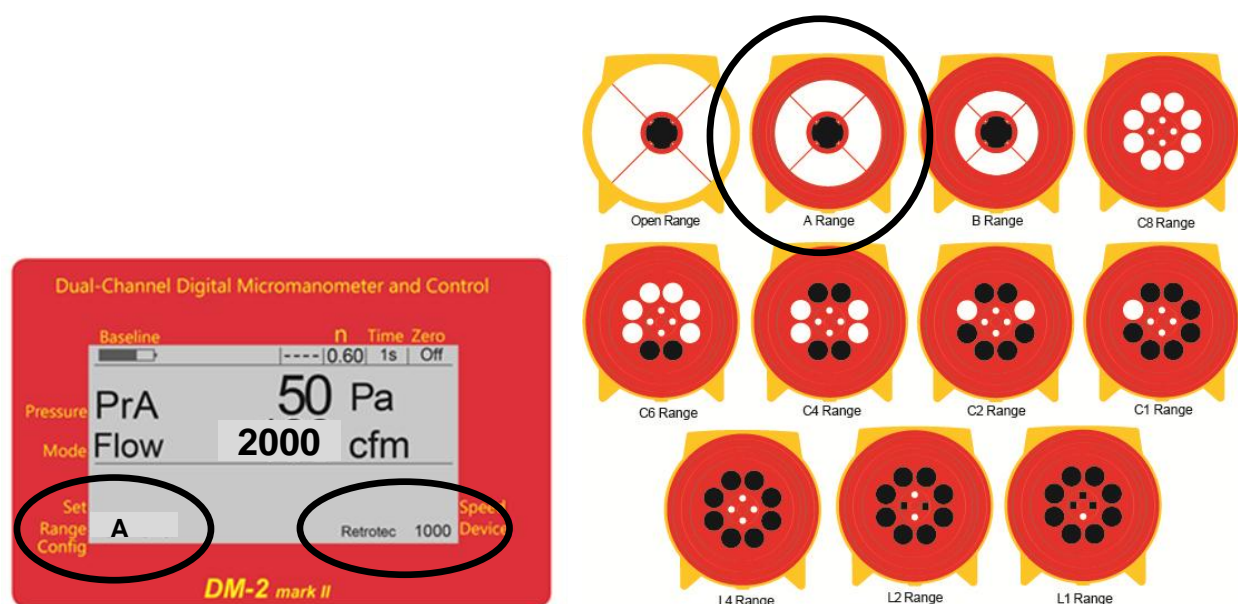

Figure 4: Fan and Range Ring in use during test must match gauge settings for "Device" and "Range Config"
- Note the Range in Step 8, which can be verified in Figure 4